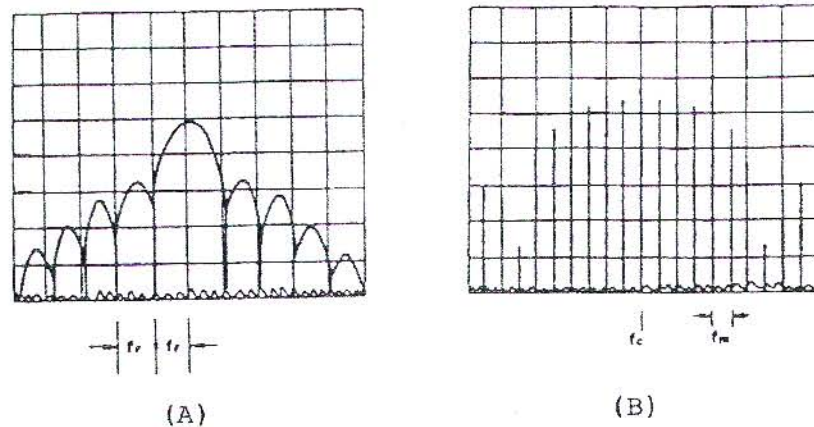

Fig. 6-6 PAM Wave Spectrum Display Examples
(5) PAM wave measurement
The spectrum display of a PAM wave like that shown in Fig. 6-6 is obtained by the measurement display expansion procedure of item (1). The pulse width  $\tau$  of the modulation pulse is obtained from the difference frequency  $f_r$  between the discontinuous points of the main lobe and side lobe of the pulse spectrum shown in Fig. 6-6(A) ( $\tau = 1/f_r$ ).
Furthermore, when each sideband spectrum is analyzed by expanding the spectrum, the spectrum display shown in Fig. 6-6(B) is obtained and the carrier frequency  $f_c$  and pulse repetition frequency  $f_m$  are measured.